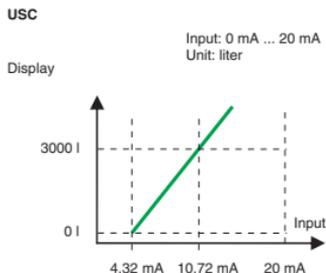

Figure 4
- The USC is to indicate the useable level in the container in liters. At 0 liter the sensor already measures a pressure due to its assembly in the connection piece. The result is the characteristic in figure 4.